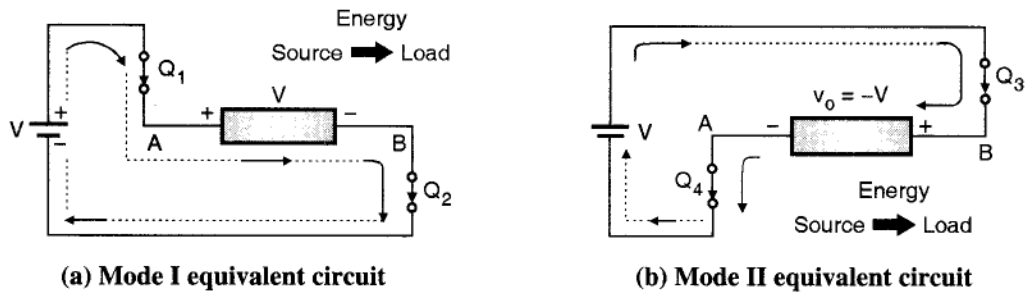

Fig. 3.11
- The equivalent circuit for mode I is as shown in Fig. 3.11 (a). At $t = T_o/2$, Q_1 and Q_2 are turned off and Q_3 and Q_4 are turned on.
- At $t = T_o/2$, Q_3 and Q_4 are turned on and Q_1 and Q_2 are turned off. The load voltage is $-V$ and load current flows from B to A. The equivalent circuit for mode II is as shown in Fig. 3.11(b). At $t = T_o$, Q_3 and Q_4 are turned off and Q_1 and Q_2 are turned on again.